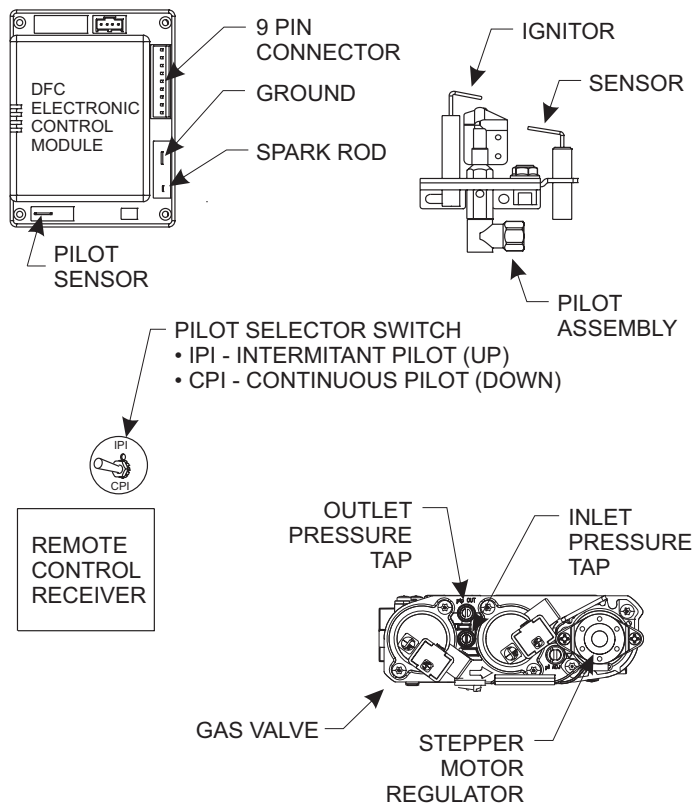

Figure 64
**Notice:** A small toggle switch is located on control module shield that is used to switch from IP (upward position) to the CPI (downward position). (See Figure 64)